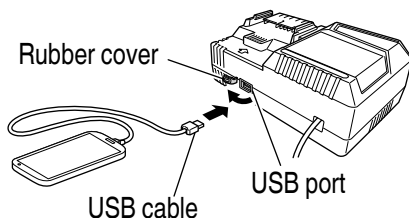

Fig. 26
- (2) Connect the USB cable. (**Fig. 26**)